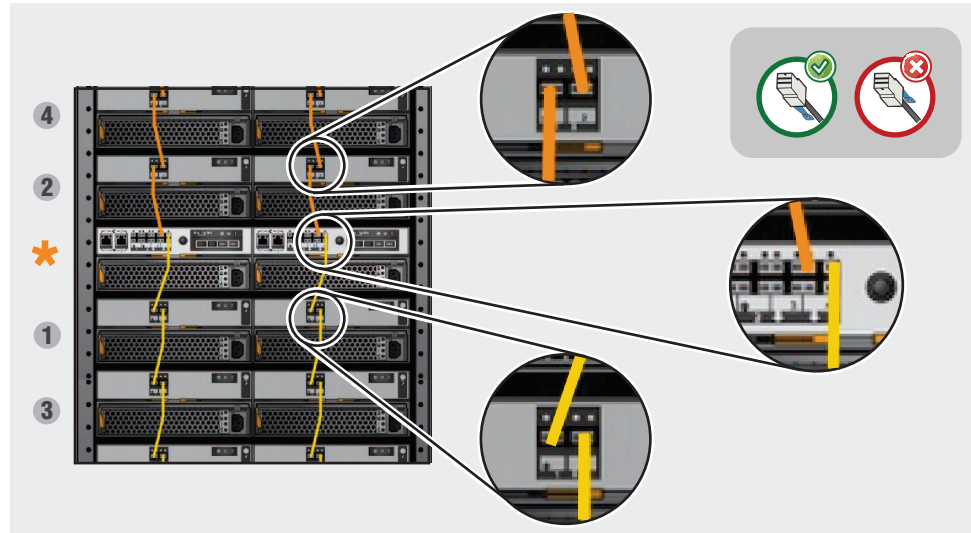

Figure 16. Connecting the SAS cables
- No more than ten expansion enclosures can be chained to port 3 of a node canister. The expansion enclosures in this chain should be installed below the control enclosure (as shown in Figure 16 on page 21).
- No more than nine expansion enclosures can be chained to port 4 of a node canister. The expansion enclosures in this chain should be installed above the control enclosure (as shown in Figure 16 on page 21).